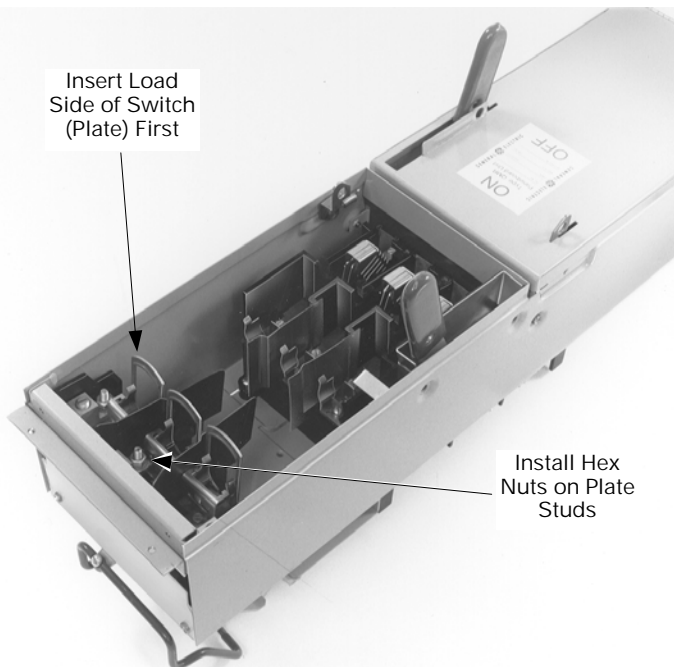

Figure 5. Install the expansion switch into the enclosure.
5. **Install the kit.** Position the load side of the expansion plate down into the enclosure, then place the switch base over the connecting straps, as shown in Figure 5. Replace the hex nuts on the plate studs and tighten to 27–32 in-lb.